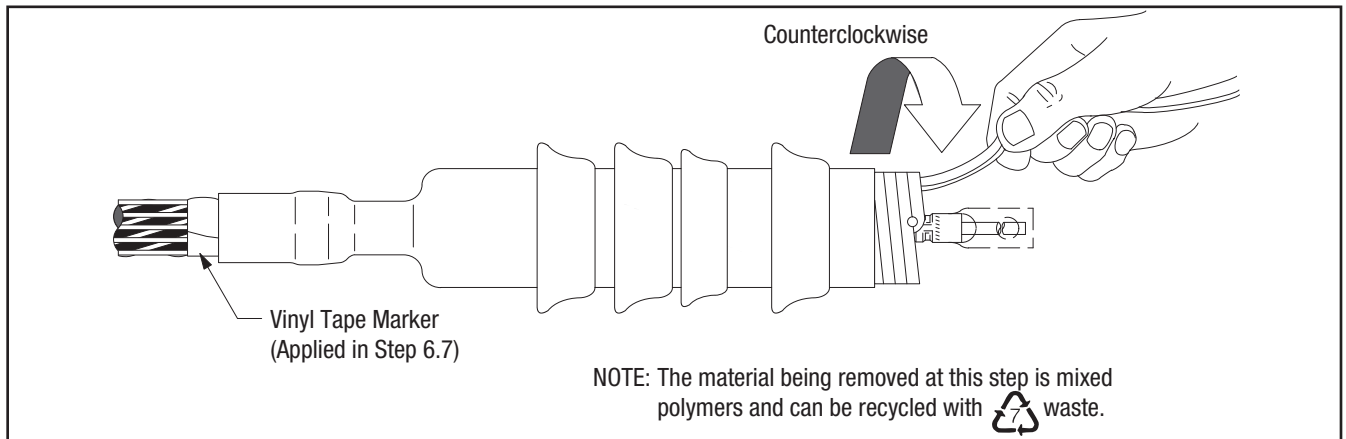

Figure 10
9.1 Slide the termination body onto the cable and remove core. Make sure the termination body (not the core) is butted up to the edge of the vinyl tape marker previously applied (Figure 10). Pull the core while unwinding, counterclockwise, starting with the loose end (Figure 10). Be sure to alternate the pulling and unwinding actions (pull-unwind-pull-unwind-etc.) to help prevent the core material from binding up as the core is being removed (Figure 10).